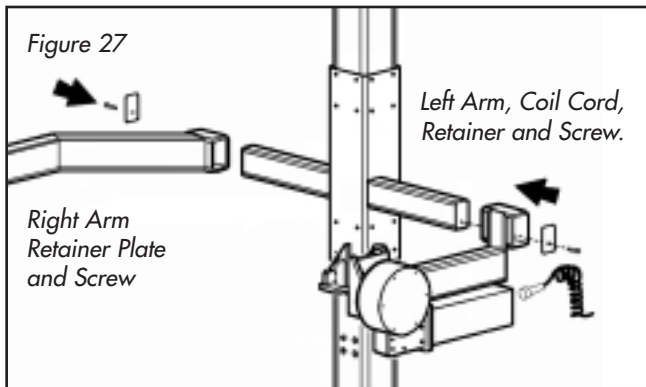

Figure 27
2. Locate the right and left arms. Slide them on the slider arms. (Fig. 27)
3. Install the retainer plate, washer and screw onto the end of the right slider arm. (Figure 27)